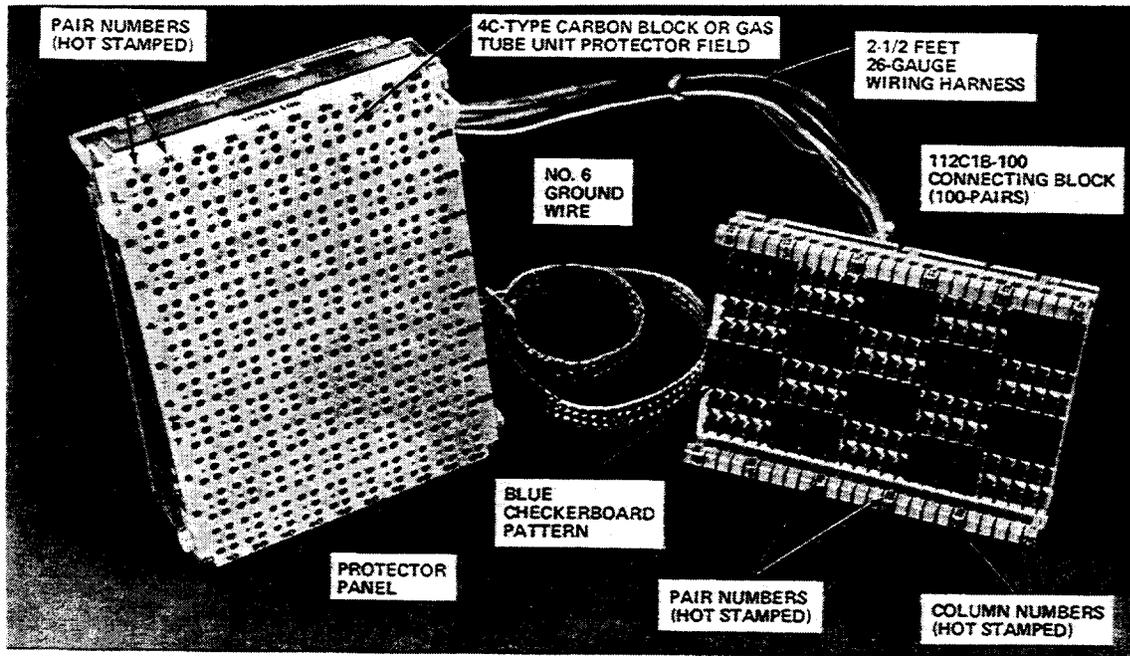

**Figure 21—308-Type Connector for Use on High Density Modular Protector Frame**
6.05 The 308A1, B1, or E connector (Figure 21) is used to terminate outside plant cables on the high density modular protector frame (ED-97898-31),